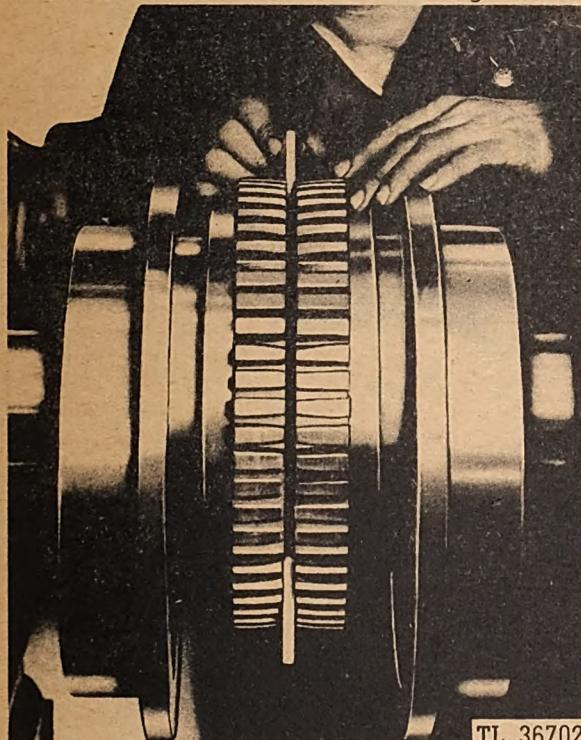

Fig. 50. Checking Gap and Angular Alignment (Coupling)
(5) Check the gap and the angular alignment of the coupling. The shafts must be lined up by using a spacer block and feelers in the gap between the coupling faces, checking at quarter points (90 degrees apart). (See Figure 50.) The minimum gap should not be less than  $\frac{1}{16}$  inch; normal,  $\frac{3}{16}$  inch; and maximum should not be more than  $\frac{3}{8}$  inch. It is recommended that the coupling be set at the normal gap.